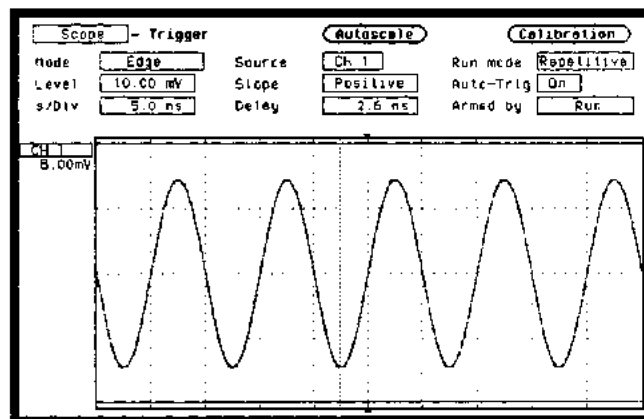

Figure 3-60. Centering the Waveform
8. Press **RUN** and use the **Level** and **Delay** to center the rising edge of the waveform as close as possible to center screen as in figure 3-60. It may be necessary to use **Offset** to center the signal symmetrically about the horizontal axis.